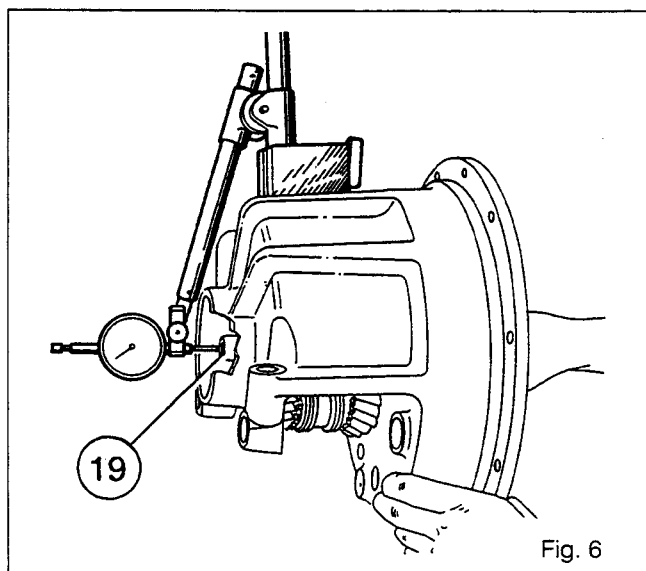

Fig. 6
33. Place the dial gauge on the end of the secondary shaft (19) (Fig. 6).